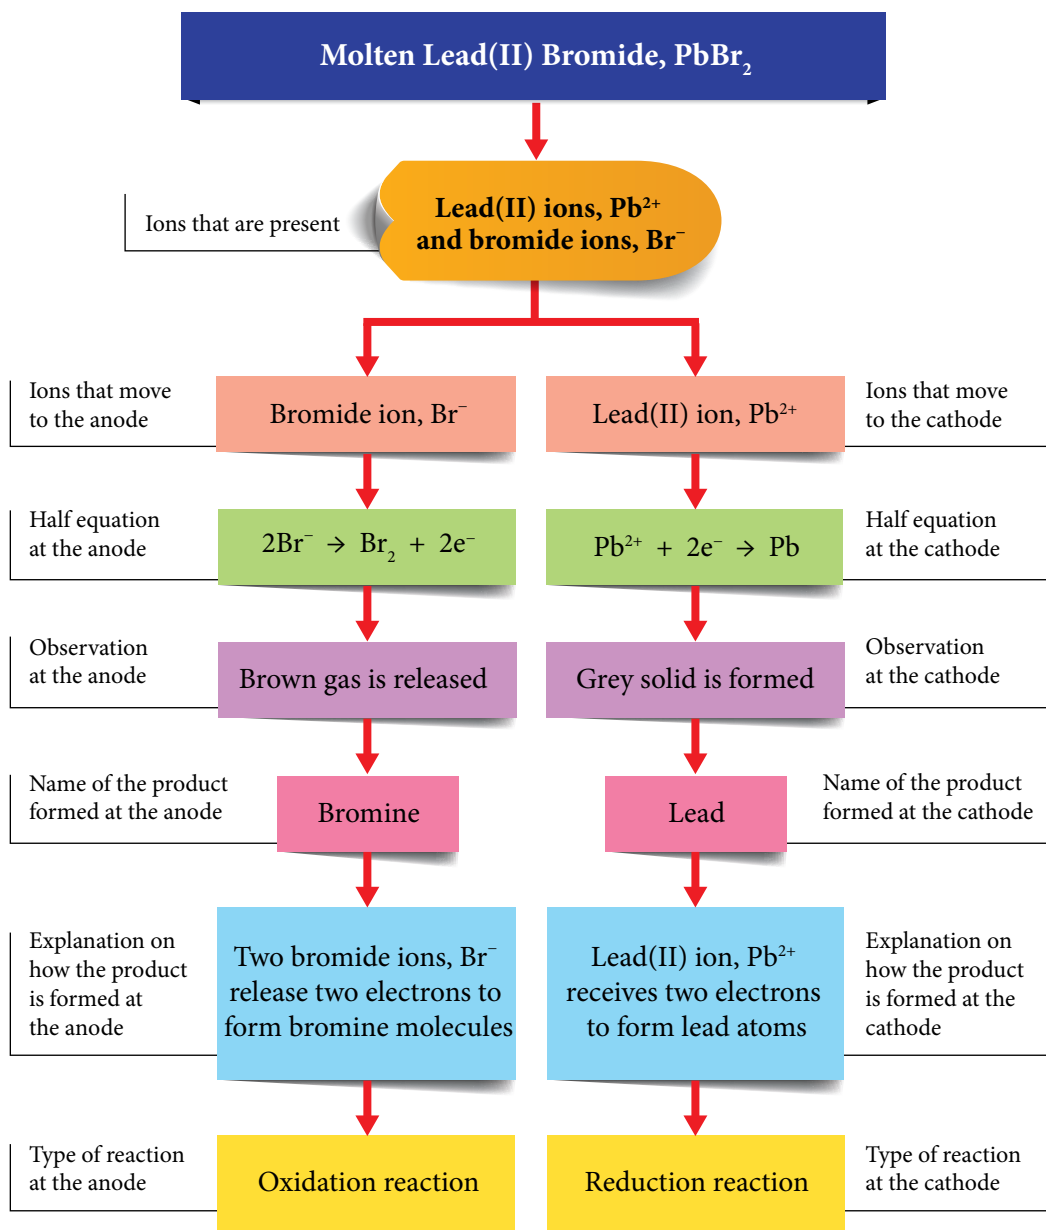

Figure 1.26 Flow chart for the electrolysis of molten lead(II) bromide, PbBr_2
- The observations of and inferences from the electrolysis of molten lead(II) bromide, PbBr_2 in Table 1.9 can be explained by using a flow chart in Figure 1.26.